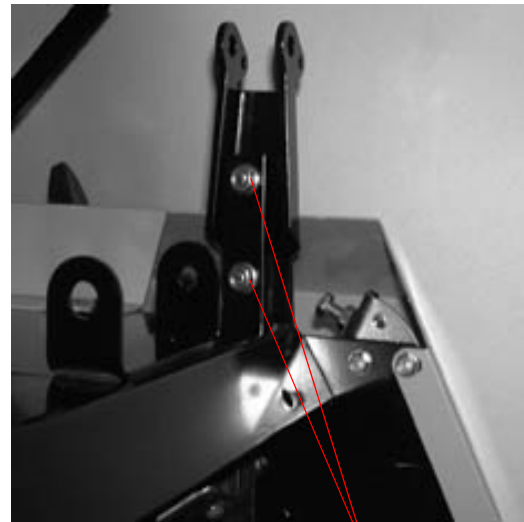

Figure. 11
- a. Remove the nuts from the lap bar mounting bolts (see Fig. 11 ).